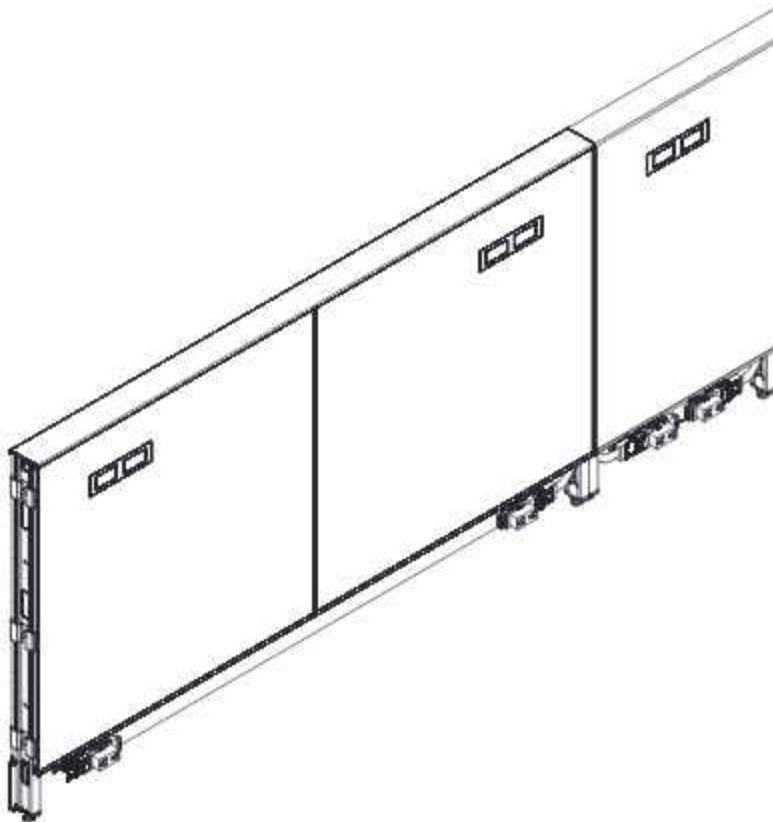

Figure 9 - 72" Panel Frame, Beltway-Height Power
3. If beltway-height power is installed in a 72" panel frame, install the tile with the left-hand cut-out to the left side of the frame and the right-hand cut-out to the right side (Figure 9).